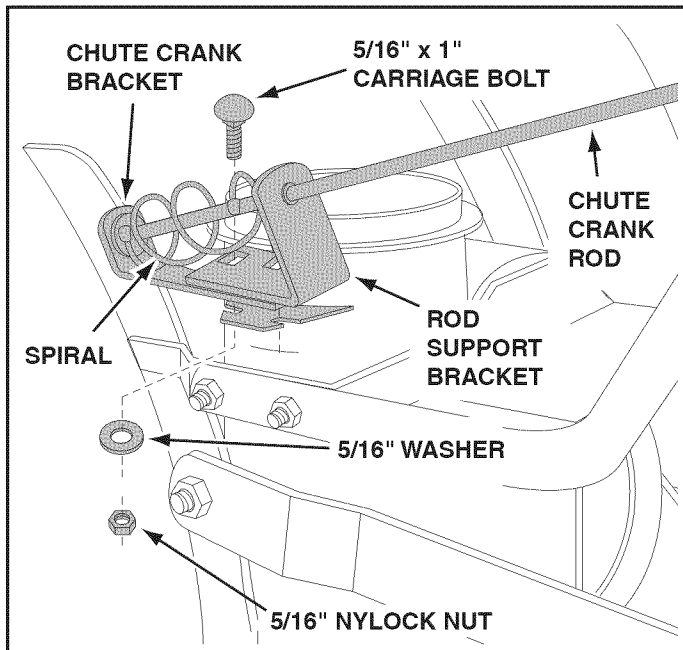

FIGURE 19
**STEP 19: (SEE FIGURE 19)**
- Position the crank rod spiral (see figure 19) so that it does not rub against the bottoms of the notches in the chute flange. **Tighten** the nuts.